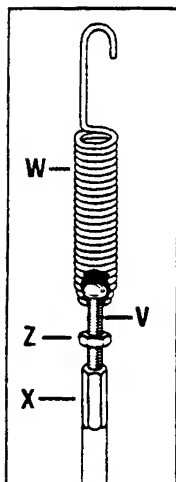
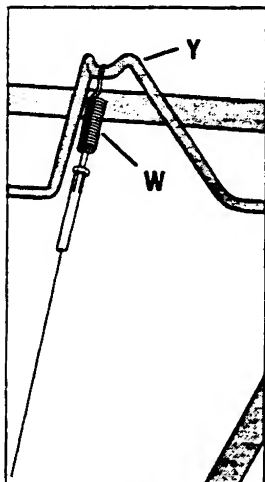

Fig. 2-5: Cable spring and adjuster.
Fig. 2-6: Attach forward clutch cable spring to forward clutch bail.
1	Spring, cable (see W, Fig. 2-5)
3. Insert the #10-24 x 2" slotted hd. screw (V, Fig. 2-5) down through the hooked end of the cable spring (W) until the screw threads extend through the spring.
4. Thread the #10-24 hex nut (Z, Fig. 2-5) halfway onto the screw (V).
5. Thread the screw (V) into the cable adjuster (X).
6. Hook the cable spring (W, Fig. 2-6) into the V-shaped bend in the Forward Clutch Bail (Y).
- a. With the Forward Clutch Bail (Y, Fig. 2-6) in an open (released) position, measure the length of the cable spring (W) from the outermost coil to the outermost coil.